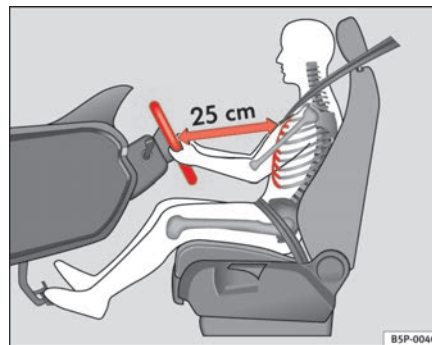

Fig. 133 Proper sitting position for driver
- Adjust the steering wheel in this way until the correct position is set ⇒ fig. 133.
- Adjust the driver seat or steering wheel so that there is a distance of at least 25 cm between the steering wheel and your breast bone ⇒ page 160, fig. 133. If you fail to observe the minimum distance, the airbag will not protect you. Risk of fatal injury.